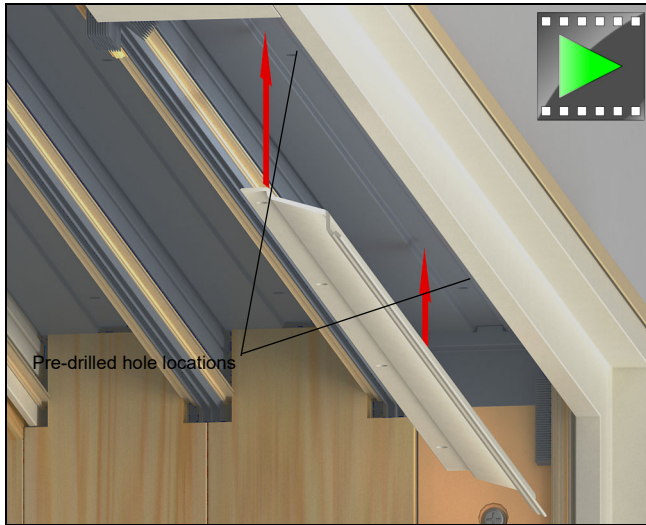

Figure 98
9. Remove tape from head jamb structural clip in head jamb and fasten using #8 x 3" black installation screws through all the pre-drilled holes. See figure 98.